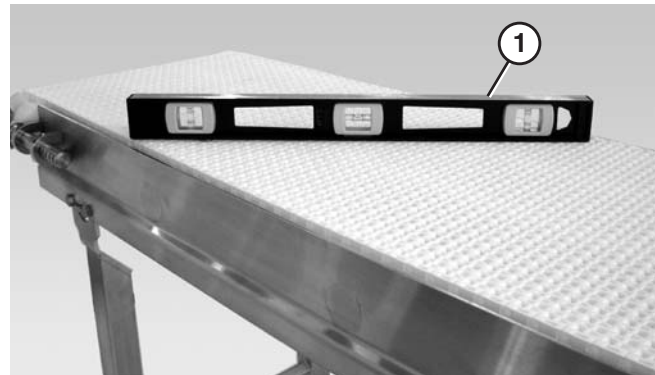

Figure 14
3. Use a level (**Figure 14, item 1**) to verify that both stand legs are the same height.